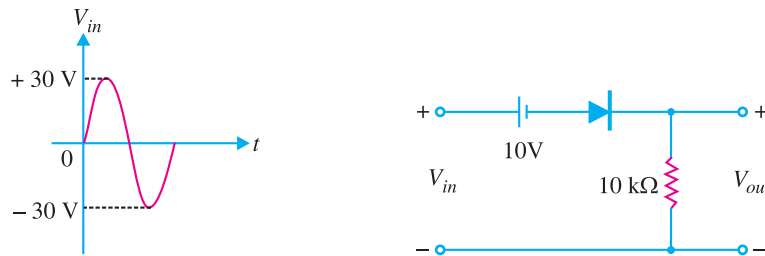

Fig. 18.35
**Example 18.12.** For the input wave to the clipping circuit shown in Fig. 18.35, find the output waveform.